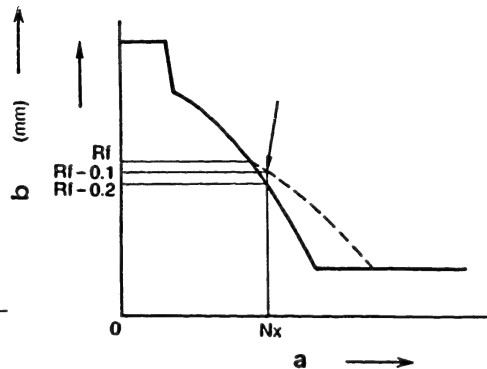

Fig. 158 Set position of damper spring
3. Screw in the damper spring (220) so that the rod position is "Rf"-0.1 mm and fix it with the locknut (refer to Figs. 158 and 159).